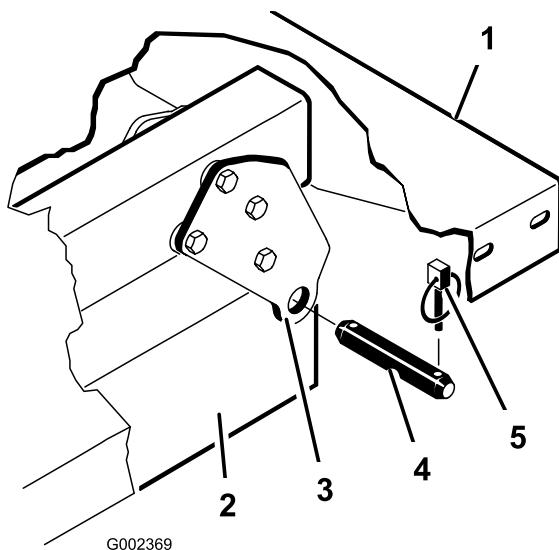

Figure 28
4. Remove the clevis pins securing the cylinder rod ends to the bed mounting plates by pushing the pins towards the inside (Figure 28).
5. Remove the lynch pins and clevis pins securing the pivot brackets to the frame channels (Figure 28).
Note: Ensure that the rear pivot plates are bolted to the bed frame/channel so that lower end angles to the rear (Figure 28).
2. Carefully set the bed onto the machine frame aligning the rear bed pivot plate holes with the holes in the rear frame channel and install 2 clevis pins and lynch pins (Figure 28).
4. Insert the clevis pin from outside of the bed with the lynch pin toward the outside (Figure 28).